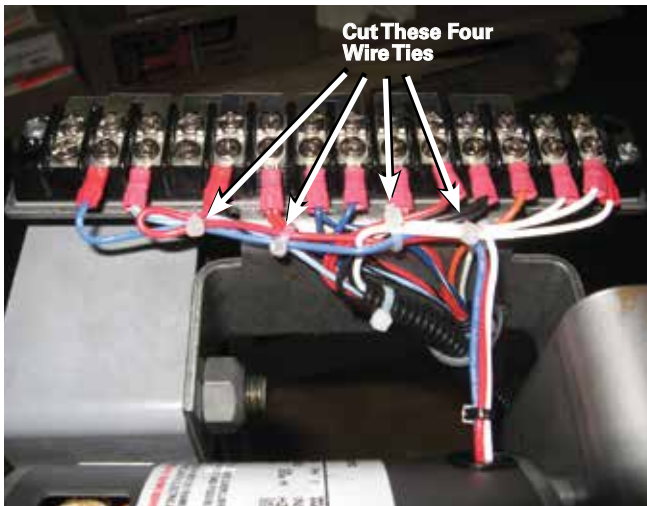

Figure 3. Removal of wire ties.
3. Use diagonal cutters to cut the four wire ties from the motor wires. Refer to Figure 3.